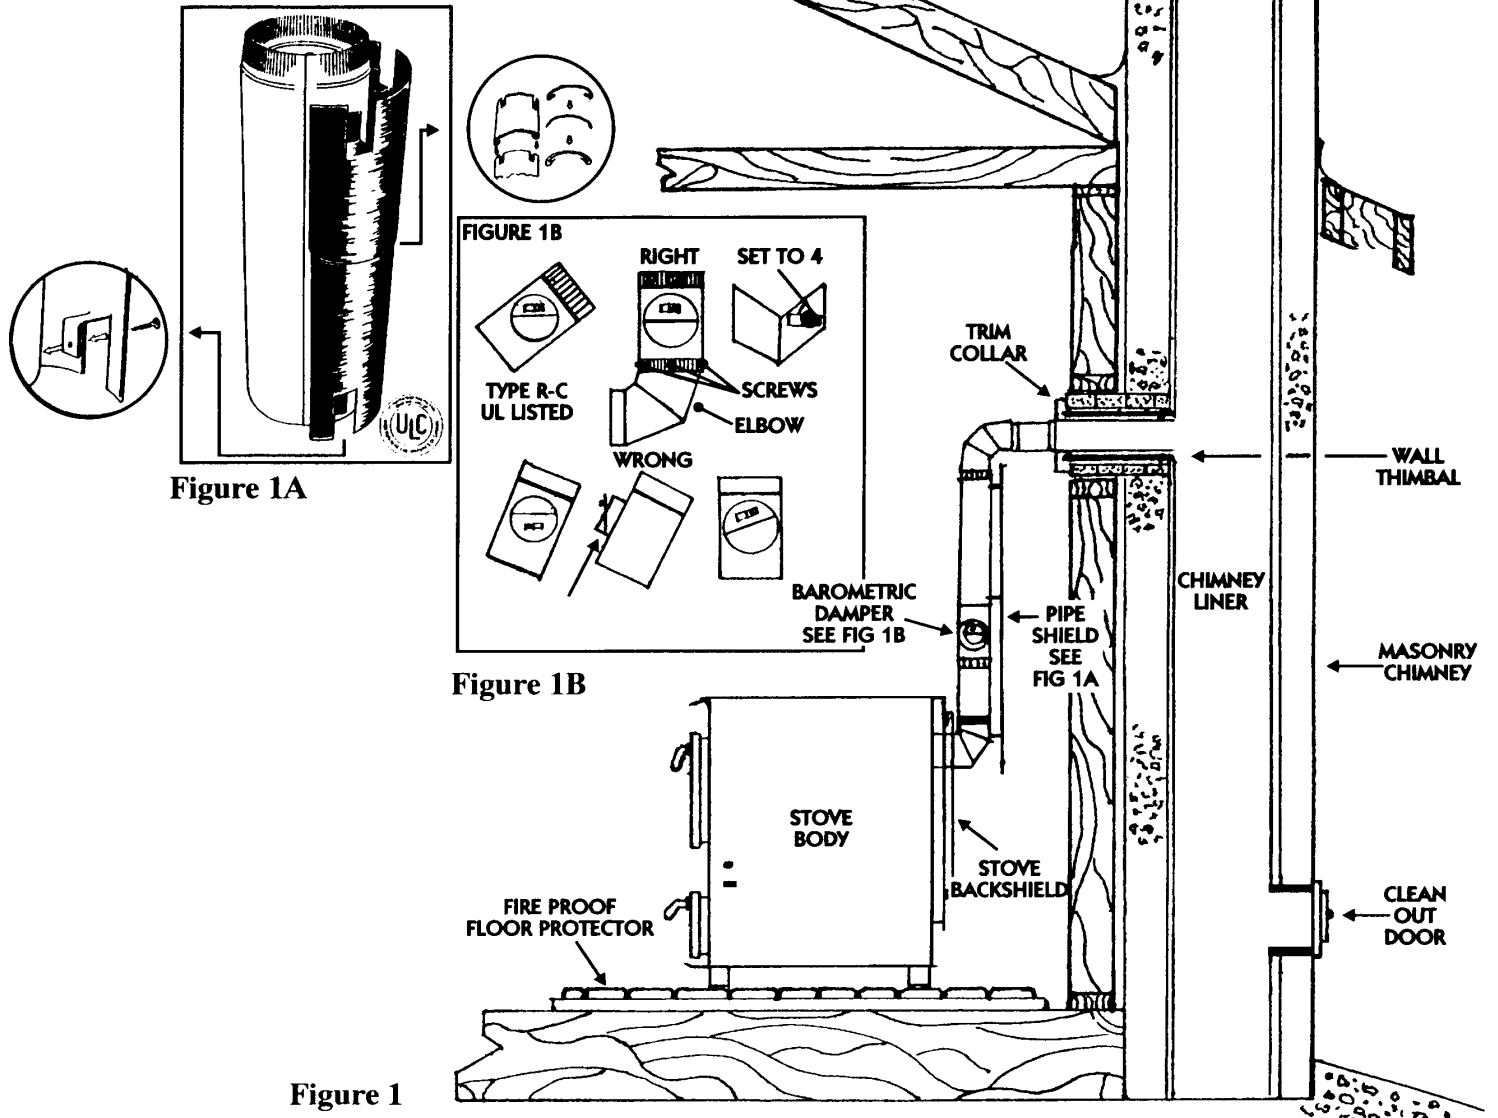

Figure 1
- A) Locate **Stove Back Shield**. (See Fig. 1) Place shield over exhaust hole with the three tabs facing the stove body. The shield should align with the exhaust
- B) Place a 6” elbow (*not provided*) over the exhaust hole, crimped end up and out. Aim the elbow in the directions of your wall thimble. (See Fig. 1).
- C) Barometric Damper - (*not provided*) follow manufacturers directions for assembly. Place damper on elbow with crimped end up and attached with three screws at joints. See fig. 1 for correct positioning of damper so that it does not interfere with stove pipe shield.
- F) Pipe shield should now be attached with screws on wall side of pipe. (**Note:** pipe shield must be attached to pipe from bottom of lower elbow to at least 1" of bottom of top elbow. If the pipe shield is too short, another should be purchased. See Fig. 1 and 1a)